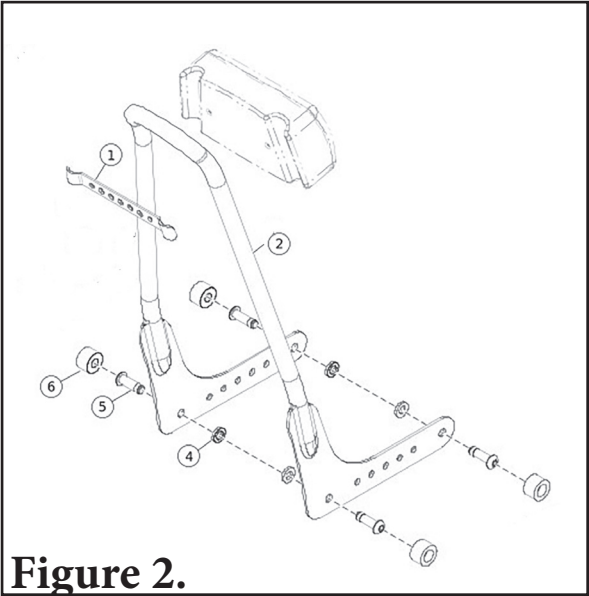

Figure 2.
See Figure 2 and Refer to Table 1.
See Figure 2. Install narrow washers (4) to backrest assembly (3).
- 1. See Figure 2. Install backrest assembly (3).
- 2. Install screws (5) from kit. Tighten.
See Figure 2. Install wide washers (6) to backrest assembly (3).
- 2. Install backrest assembly (3).
- 3. Apply threadlocker. Install screws (5) originally removed from saddlebag or docking points. LOCTITE 243 MEDIUM STRENGTH THREADLOCKER AND SEALANT (BLUE) (99642-97)
- 4. Tighten screws (5).